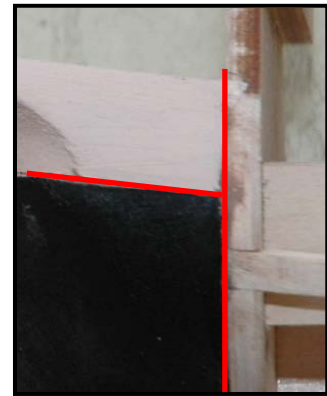

Figure 34: Angle of Transom to Frame 5
- the angle it makes with Frame 5 (Fig. 34)